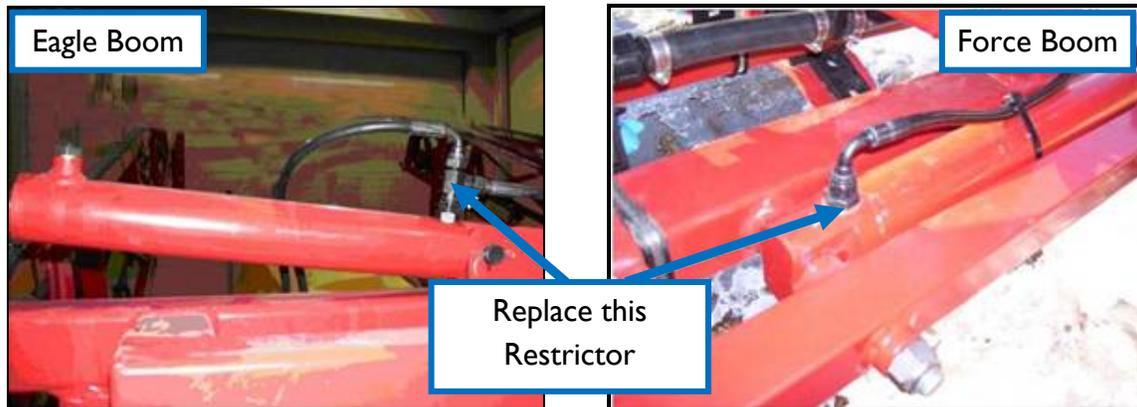

Figure 29: Restrictor to be Replaced on the Tilt Cylinders
10. Remove the Hardi hoses from the “raise” line (the “B” line) of the cylinder and remove the restricted straight BSPP fittings. **(Figure 29)**
12. Remove the Hardi hoses from the “lower” line (the “A” line) of the cylinder and remove the restricted straight BSPP fittings. **(Figure 29)**